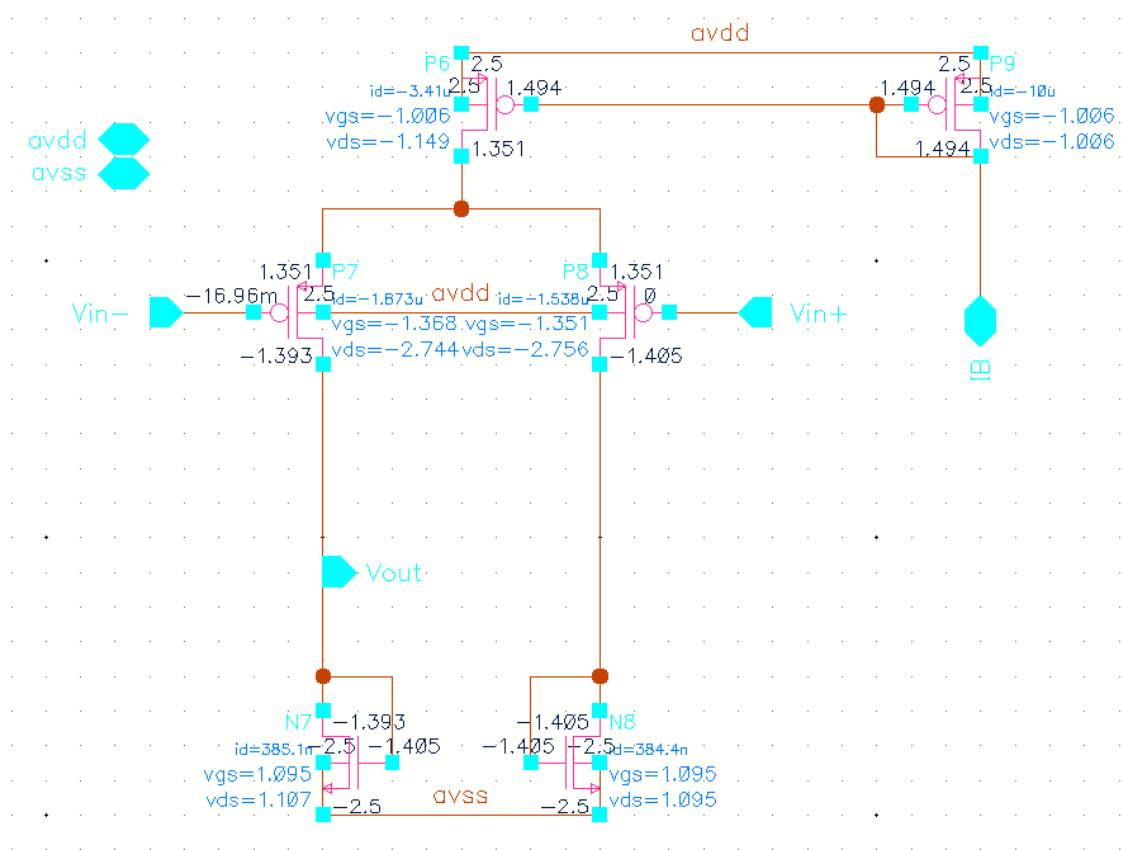

Fig 9
2. Design a CMFB "amplifier" or attenuator (an example is shown in Fig 9 and you can use other structures). The output DC voltage should be close to the biasing voltage of "Lab5\_VB".